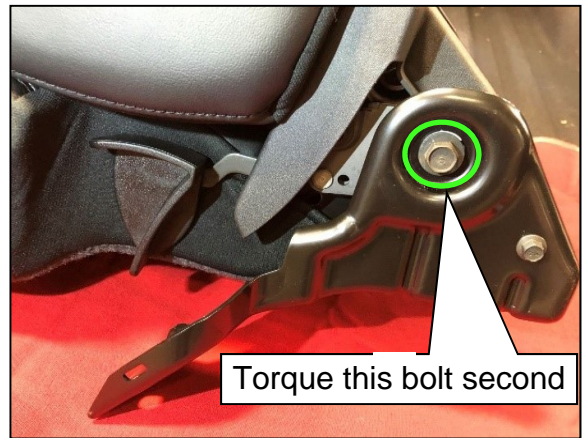

Figure 15
16. Torque the upper outboard seat cushion pivot riser bolt to specification (Figure 15).